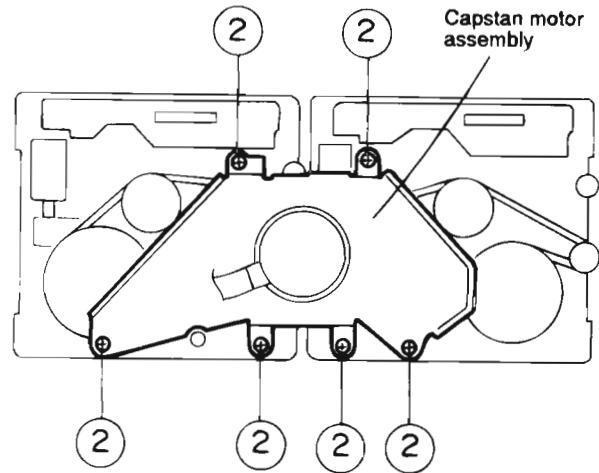

Fig 5
1. Remove the six screws ② retaining capstan motor assembly (See Fig 5).